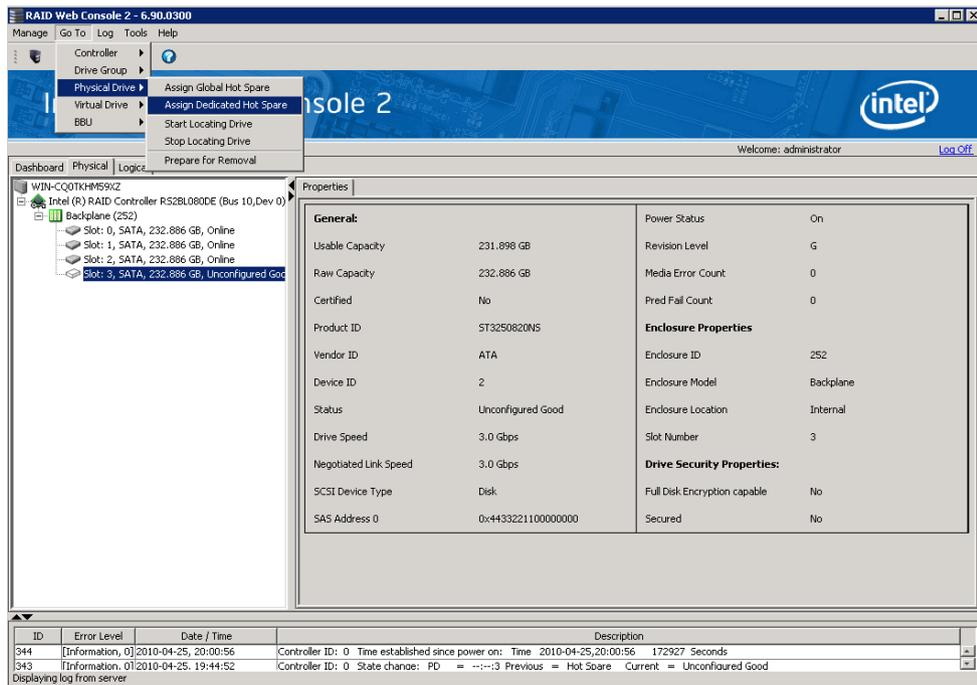

Figure 111. Assign Dedicated Hotspare
2. In the Menu, click the **Go To -> Physical Drive** tab and select **Assign Dedicated Hot Spare**, as shown in Figure 111.